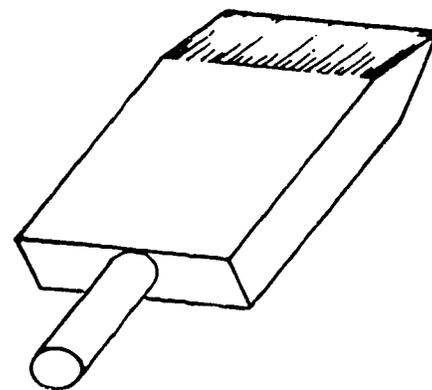

Figure 29. A Paddle
Step 6. Go over the angles (corners) a_c in. This can be done easily with a paddle, as shown in Figure 29. Note the sharpened end which is used to work into a corner.